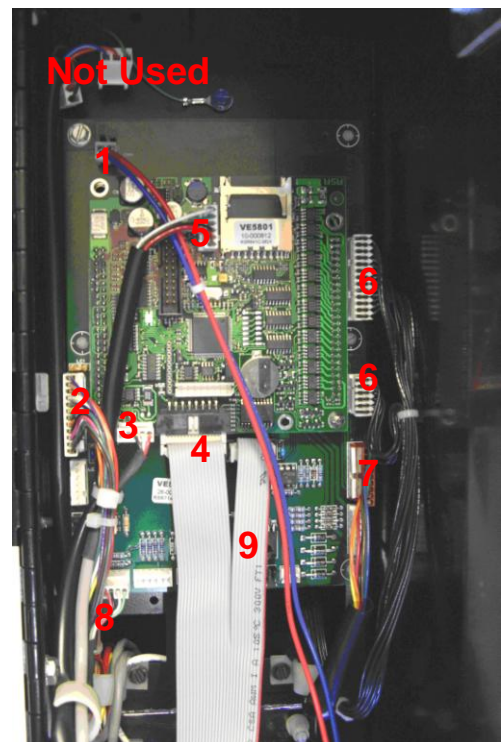

Figure 11
17. Attach the VE5801 Universal Control PCB to the VE5886 Harness PCB using the VE5806 standoffs and VE5813A Phillips screws provided. Install this assembly into the machine in the same location as the original PCB. Secure in place using the screw saved from step 6. See Figure 11.
18. Connect the (1) VE5802E 24V power supply harness, (2) Micro Mech harness, (3) VE5817 DEX harness, (4) VE5802C Display harness (5) VE5816 MDB harness, (6) Motor harnesses x 2, and the (7) Gum & Mint harness to the VE5886 Harness PCB as shown. See Figure 11.
NOTE: The original 24V harness connections supplied in the machine are not used. Also shown in Figure 11 are the optional (8) LED light kit and (9) Drop sensor.